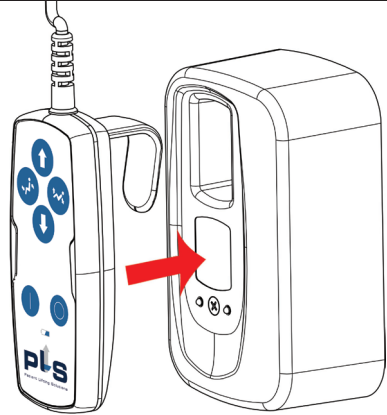

Figure 7, Hand Control in wall charger
1. Place the Hand Control in the wall holder (*Figure 7, page 13*).